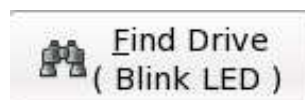

Figure 15: Find Drive button on main GUI
7.4 Find Drive Feature. In the event the user has multiple hard drive devices connected to a single system, the user can click the FIND DRIVE button (see Figure 15) to flash or blink the activity LED light to locate the selected drive.